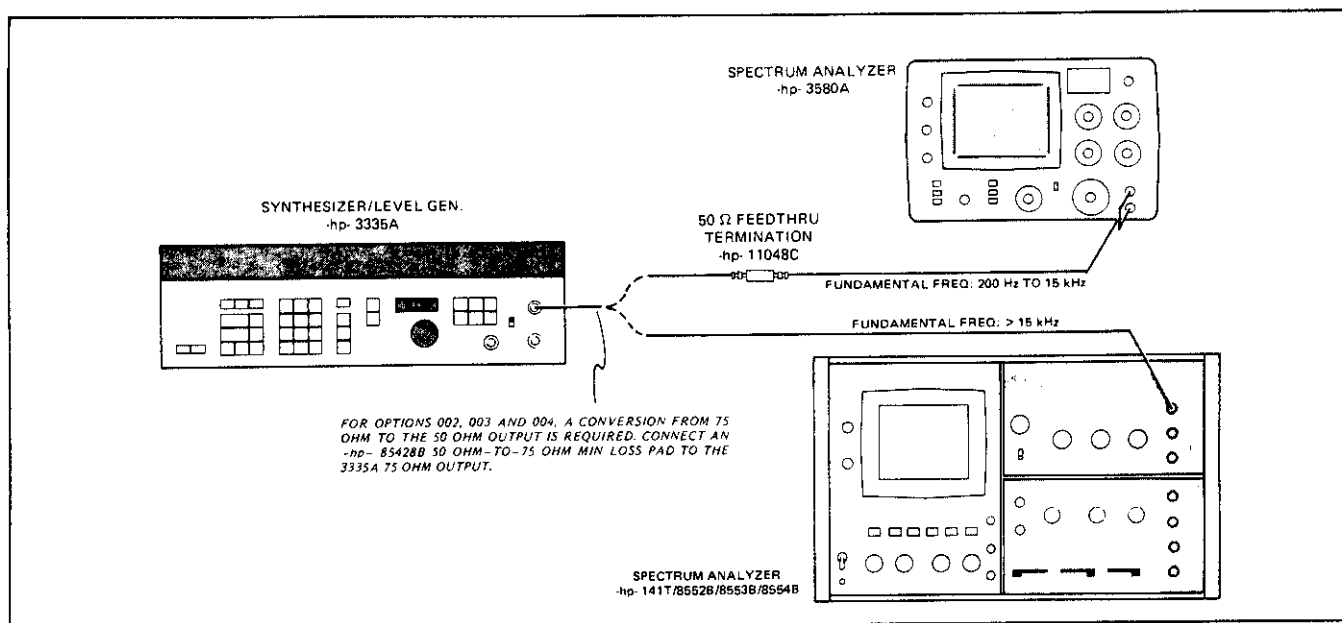

Figure 4-1. Harmonic Distortion Test.
a. Connect the test set up as shown in Figure 4-1. Note the use of the 50 ohm-to-75 ohm Minimum Loss Pad for the 75 ohm output of the option instruments.